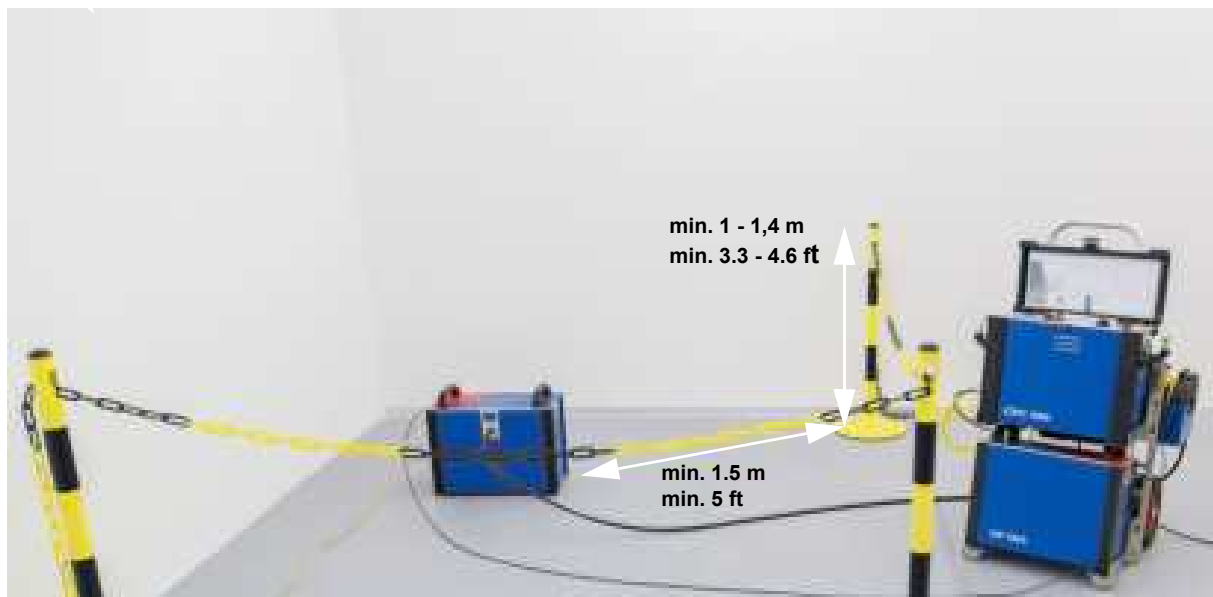

Figure 3-6: CP CAL1 calibration setup with safety barrier
5. Erect a safety barrier as depicted in Figure 3-6 below.